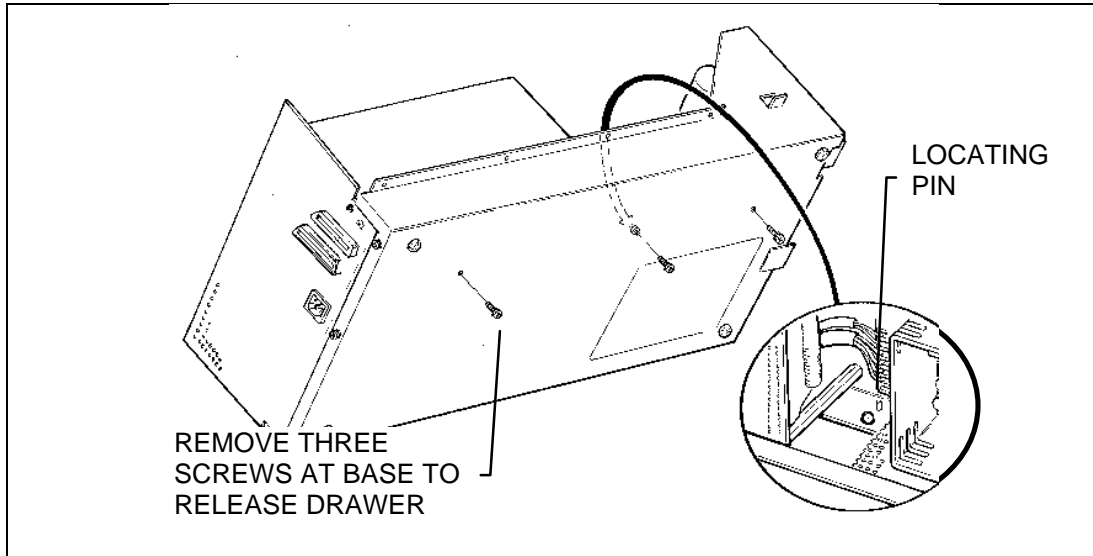

Figure 6-18 Removing the electronics drawer hardware
5. Turn the unit on its side and, while holding the drawer with one hand, remove three screws from the bottom which secure the drawer to the pan assembly (Figure 6-18). Turn the unit right side up again.